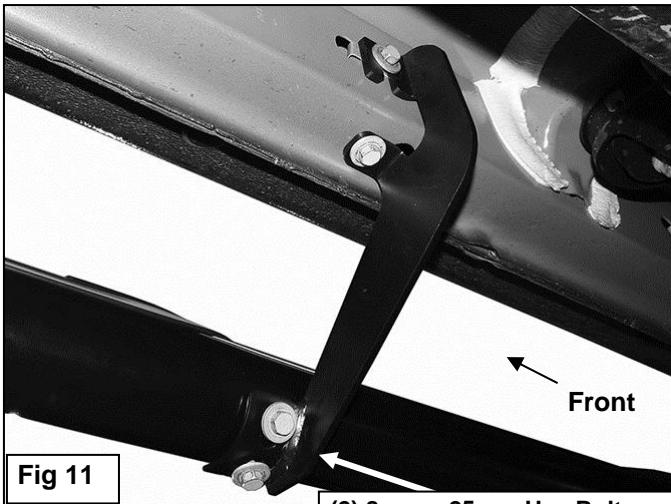

Fig 11
8. Move to the Center Bracket. Line up the Bracket with the threaded inserts in the bottom of the Sidebar. Attach the Sidebar to the Bracket with (2) 8mm x 25mm Hex Bolts, (2) 8mm Lock Washers and (2) 8mm Flat Washers, **(Figure 11)**. Do not tighten hardware.